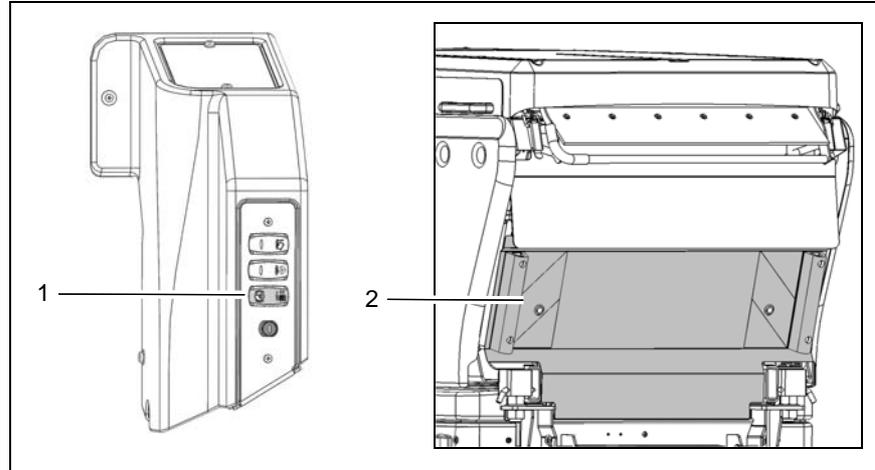

Fig.2
1. Place the machine on a level surface and secure it with the parking brake (Fig. 2/1).
2. Switch off the engine and remove the ignition key (Fig. 2/2).
3. Open the rear flap (Fig. 2/2) with the square key and swing it up.
1. Fasten the high-pressure pump (Fig. 2/1) with three hexagon head bolts M8x20 to the lower cross-beam (Fig. 2/A,B,C) of the dirt hopper.
2. Fasten the ball cock (Fig. 2/2) with coupling, coupling plug and screw-in nozzle to the connection bracket (Fig. 2/3) of the rear wagon.
3. Fasten the fresh water hose (Fig. 2/4) with hose clamp to the coupling of the ball cock (Fig. 2/2).
Fasten the hose holder (Fig. 2/5) with two M6x20 flanged button head bolts to the lower cross-beam (Fig. 2/D) of the dirt hopper.